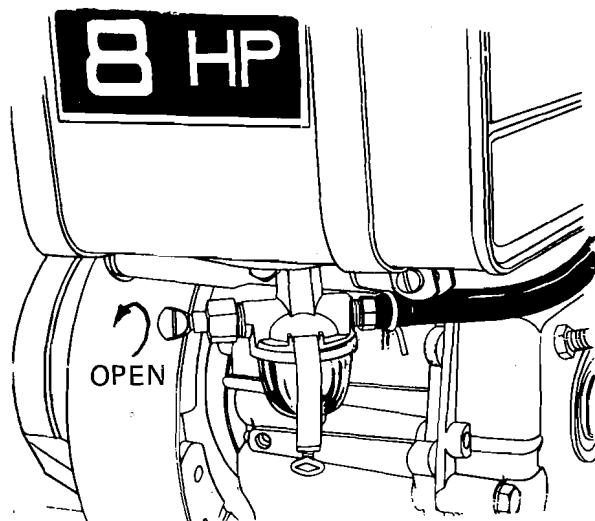

FIG. 3
3. Open fuel shut-off valve. Shut off this valve after each day's operation. Refer to Figure 3.